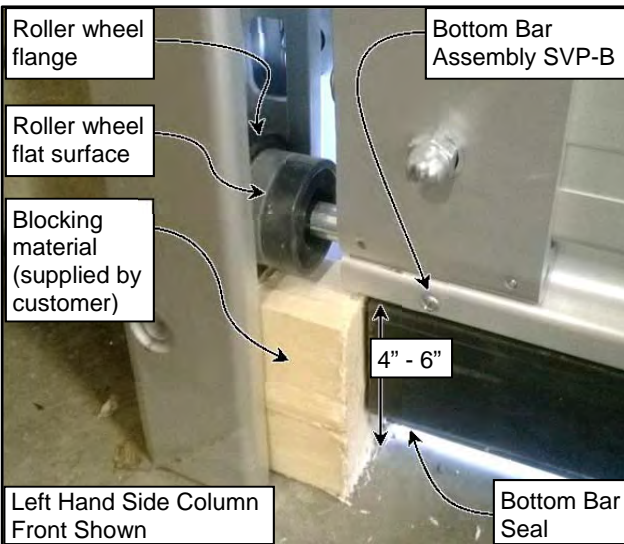

Figure 46
1. Move the door to the fully closed position by pressing the door close (V) button located on the 3-button control station.
2. Block up the door panel so it is fully supported in the closed position as shown. Block up the door panel approximately 4" - 6" off the floor, or just enough to relieve at least some of the tension from the cable. (See Figure 46)